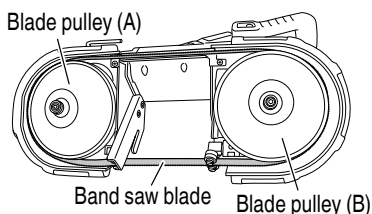

Fig. 18
- (4) Holding the band saw blade in place, turn the Tension lever in the direction for tightening and secure the band saw blade. (Fig. 18)